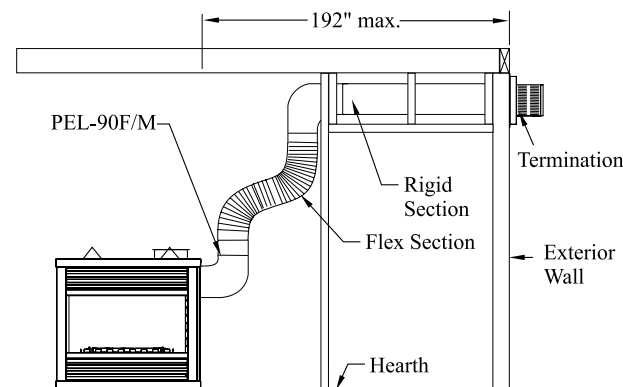
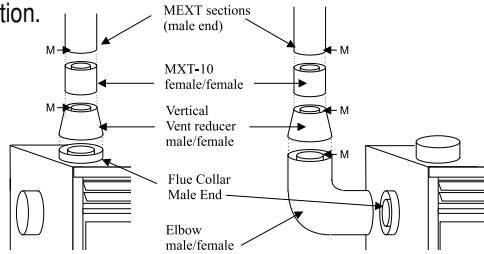

Figure 9. Extended horizontal installation using a combination of rigid and flex venting.
Figure 19. Reduced Vertical venting application from 5"/8" to 4"/7".
A 10' section of rigid pipe and a 90° elbow may be used in conjunction with a 3 ft. flex section (PFL-3) will, when extended in a chase, allow for a maximum horizontal run of twelve and one-half feet from the centre of the fireplace to outside wall and a minimum of 7'6" when retracted in opposite direction. (See Figure 9.)
Figure 9. Straight, vertical venting. When the vent run is not reduced use a PEL-90F/Felbow, which is connected directly to the fireplace flue collar. In this case, the PXT-10 adaptor is not needed. * If reducing to 4"/7" venting see figure 19.
* If reducing to 4"/7" venting see figure 19.